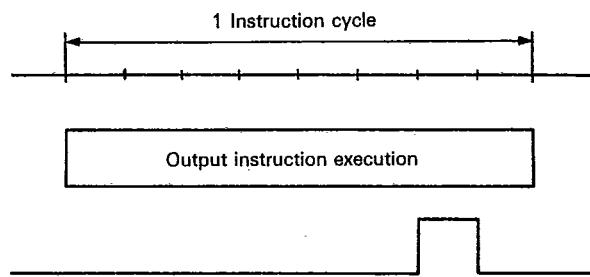

Figure 11. Output Circuit Operation of Standard Pins With Pull-Up MOS Option
**Output Circuit Operation With Pull-Up MOS Standard Pins:** In the standard pin option with pull-up MOS, the circuit shown in Figure 11 is used to shorten rise time of output.